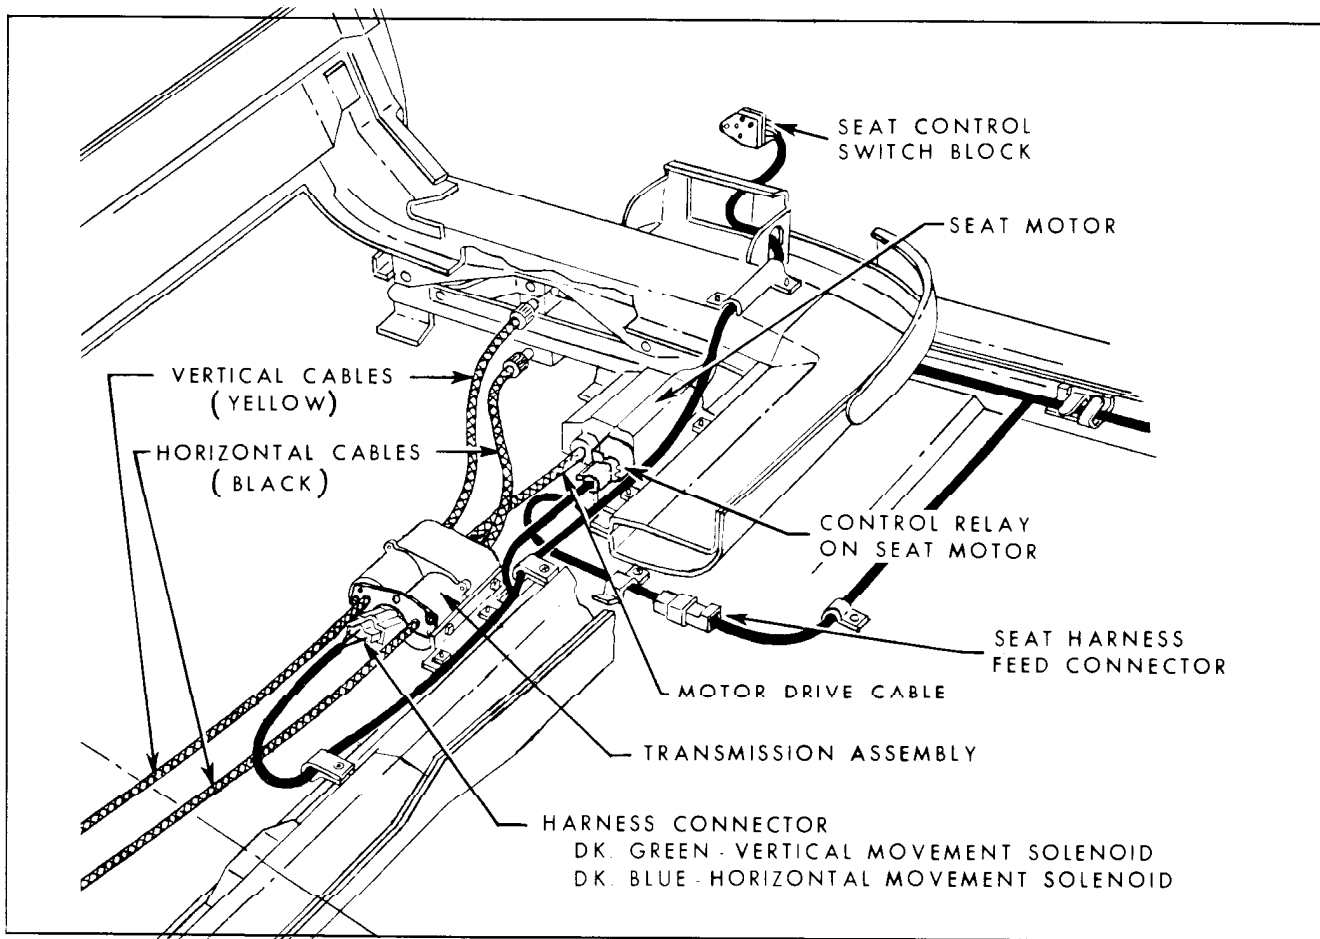

Fig. 17-70 Four Way Seat Assembly
3. Remove screws securing horizontal and vertical cable and plate on side of transmission from which cables are being removed and remove cables from seat assembly. (Fig. 17-70)
2. Disconnect wire harness connector from transmission. (Fig. 17-70)
4. Remove transmission to support attaching bolts; then disengage transmission from motor drive cable and remove transmission from seat assembly. (Fig. 17-70)